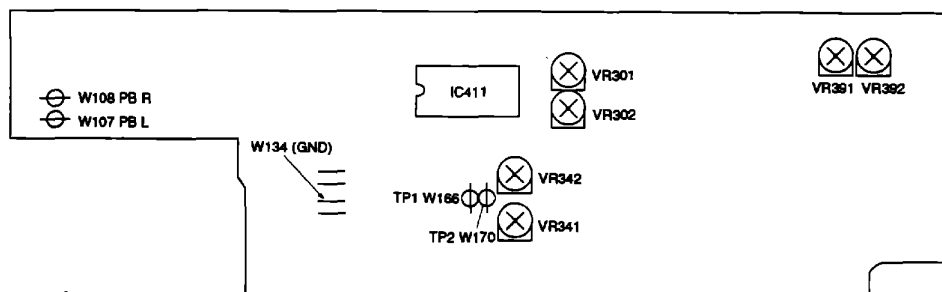

Fig. 6-4 Adjusting and Measuring Points
- Grounding position during the adjustment is W134 (See Fig. 6-4).